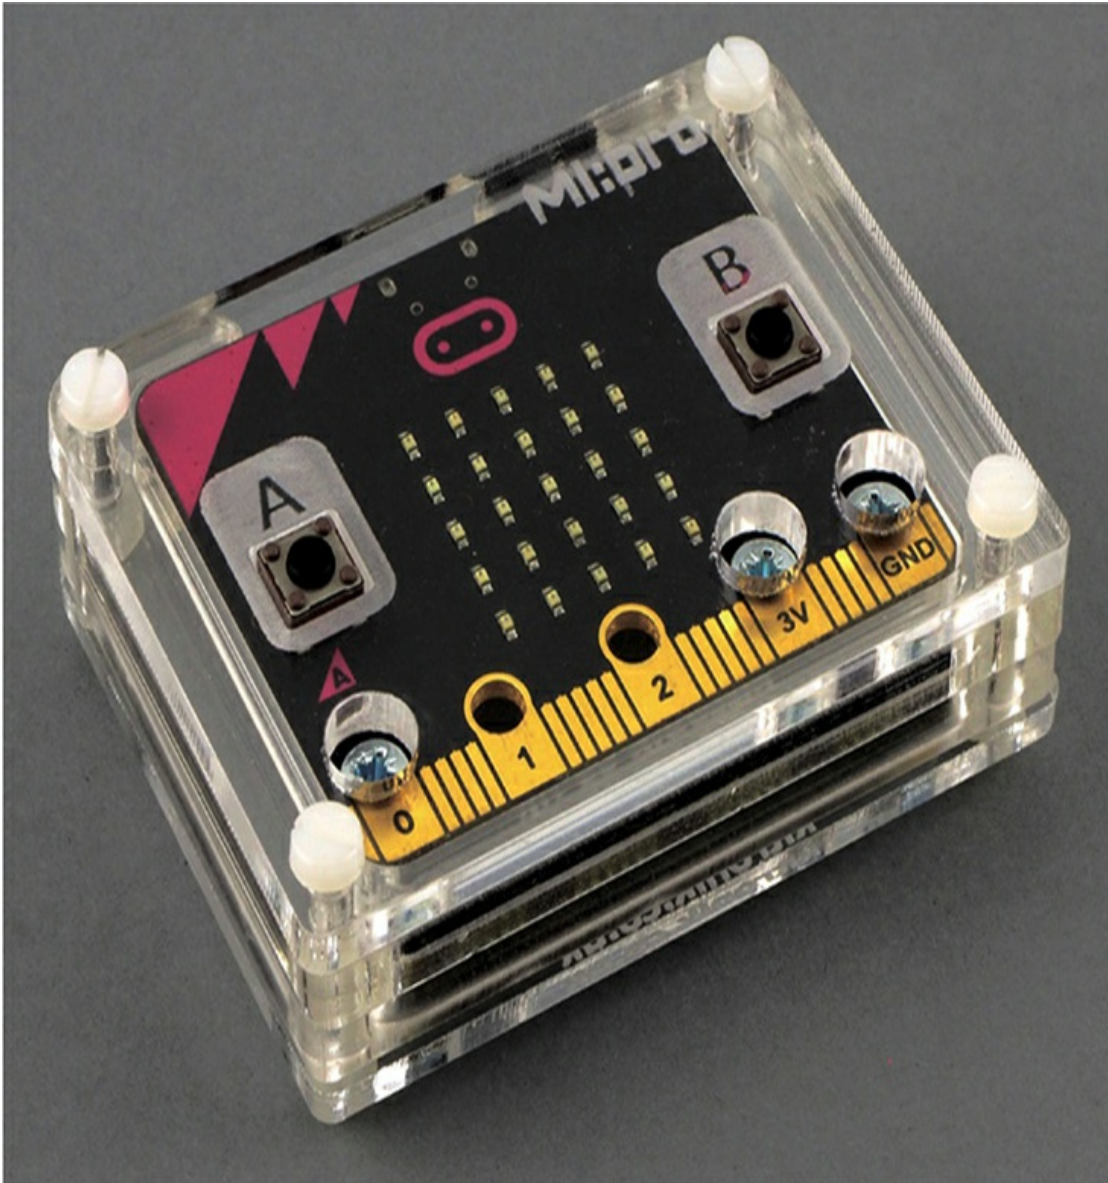

Figure 5-11: Kitronik MI:pro case with MI:power battery backpack
- ▶ Put your micro:bit in a case. A Kitronik MI:pro case with MI:power battery backpack, shown in Figure 5-11, is a great choice. If you use this case, you won't need a battery pack, because the case contains a tiny 3V battery.
You could also use the MI:pro case and MI:power combination shown in Figure 5-11.